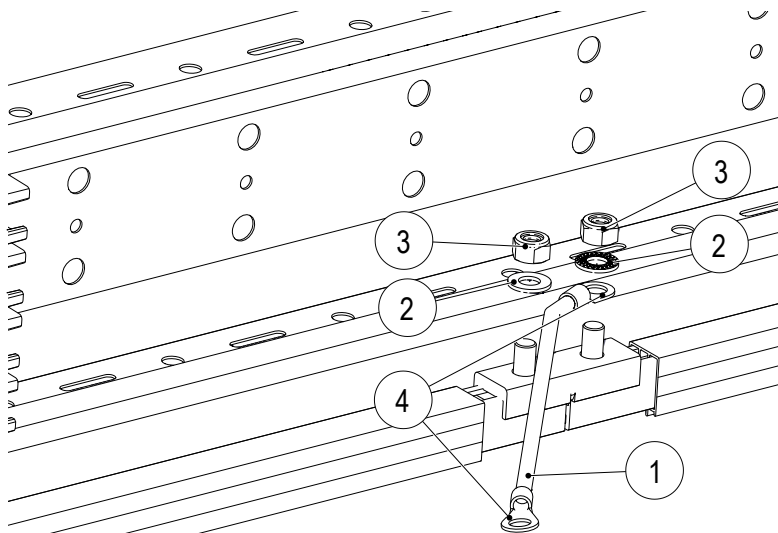

Fig. 47: Install PE cable (1) on PE rail connector
1. Attach a ring terminal (4) to each end of the PE cable (1) (see Fig. 47).
2. Tighten the PE cable (1) with locking edge washer (2) and hexagon nut (3) to the connector bolts of the PE rail with a torque wrench (SW 13, torque: 12 Nm) (see Fig. 47).